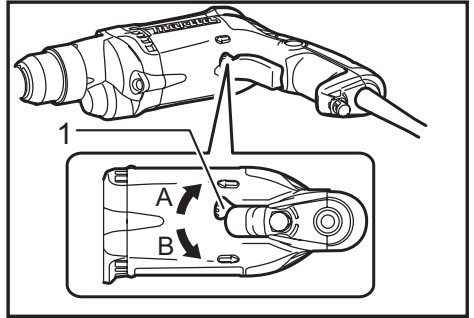

Fig.6
- Fig.6: 1. Reversing switch lever